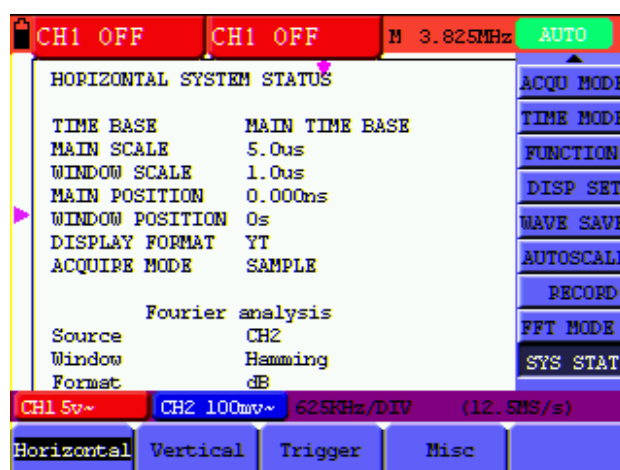

Figure 65: System State
4. The screen that looks like the following figure 65 will be displayed.